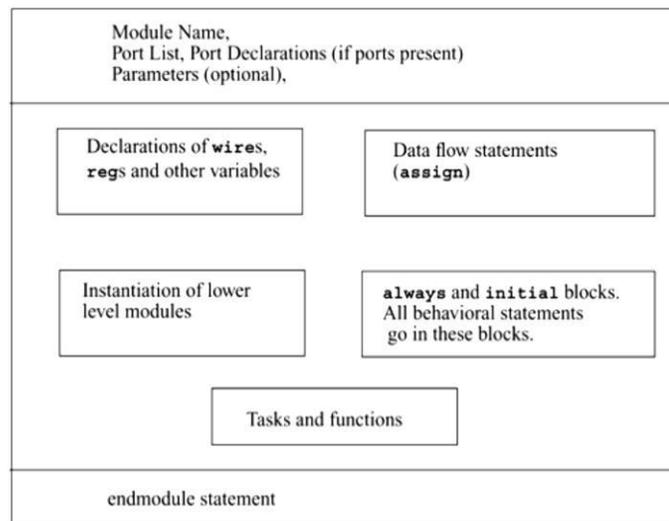

Figure 2.2.:Components of a Verilog Module
- In the SR latch definition above, all components described in Figure 2-2 need not be present in a module. We do not find variable declarations, dataflow (assign) statements, or behavioral blocks (always or initial).